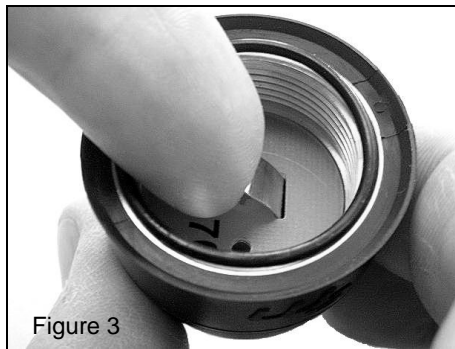

Figure 3
4. Tuning and Installation (Figure 3):
- a. Verify contact spring is completely extended. If necessary, adjust by pulling the contact outward. (Figure 3).